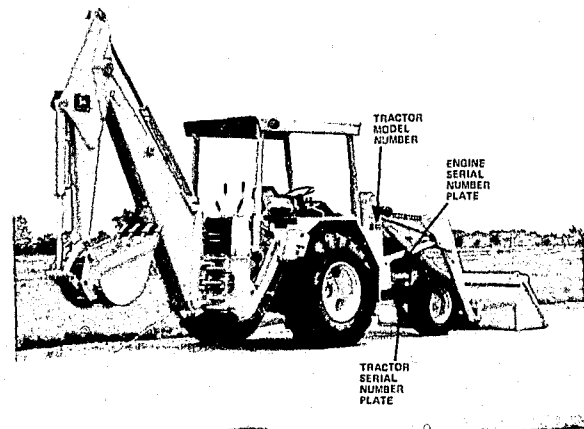

Figure 1
- The model number appears on the sides of the loader and also on the loader serial number plate. (See Figure 1)